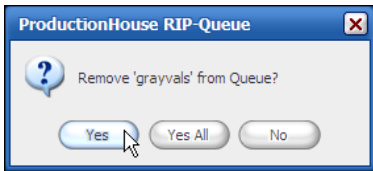

Figure 14—Delete Job
2. Press the **Delete** key on your keyboard, or click the **Delete** button on the left-side of the job list. This will display a warning dialog (see Figure 14).